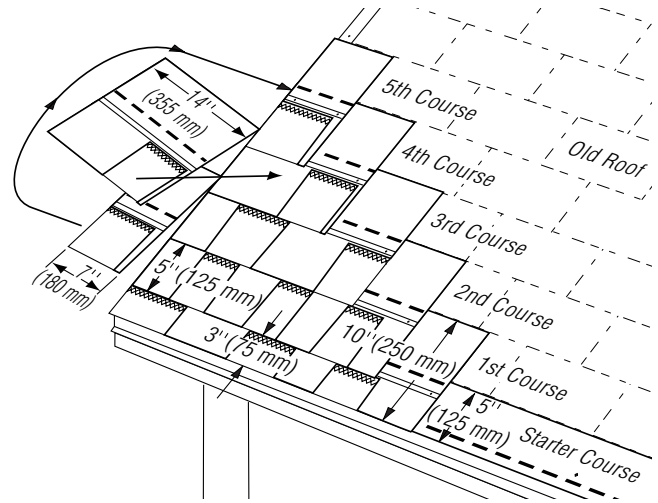

Figure 15-13: Five-Course Diagonal, Nested.
2. Cut 7" off the length of the first strip, apply the 29" remaining piece over the old first course at the lower left corner, overhanging the rakes and eaves $\frac{1}{2}$ " if drip edge is used, or $\frac{3}{4}$ " if no drip edge is used (Figure 15-13).
3. Continue with full-length starter shingles along the eaves (Figure 15-13).
1. The first-course shingles are made of full LandMark shingles with 2" cut off the bottom of the tabs (*Figure 15-13*).
1. Cut 7" off the left end of the first shingle and save this piece for later use. Apply the 29" long piece over and above the first-course shingle. For this and all succeeding courses, align the top edge of the shingle to be applied with the bottom edge of old shingles in the next course. Exposure of first course only is reduced to 3" (*Figure 15-13*).
2. Fill-in courses across the roof in a stepped diagonal fashion using full shingles (*Figure 15-13*). Do **not** run courses straight across.